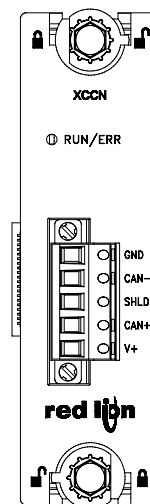

Figure 2
3. Verify that the option card knobs are in the “unlocked” position as shown in Figure 2.